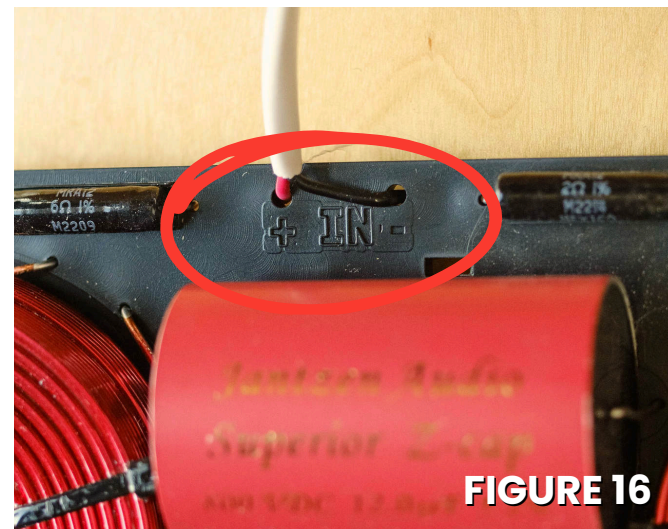

FIGURE 16
8. Insert the red wire through the IN+ hole on the front of the Smart Node board and solder to the appropriate letter on the rear. Insert the black wire through the IN hole on the front of the Smart Node board, then solder it to the appropriate letter on the rear (*figure 16*).